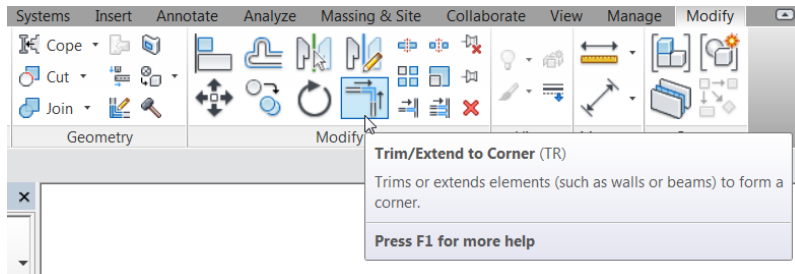

FIGURE 2.14: The Trim command is your new best friend.
1. On the Modify tab, select the Trim button on the Modify panel, as shown in Figure 2.14.